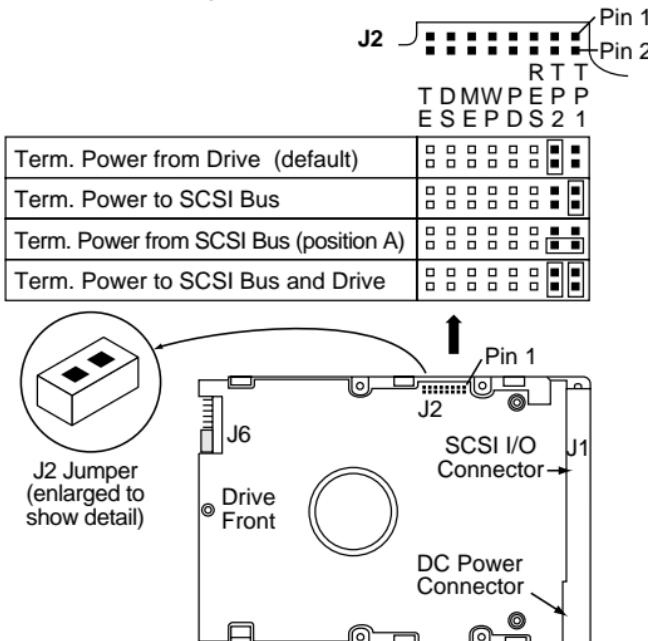

Figure 9. Setting terminator power jumpers
There are three possible terminator power (TP) configurations for "N" model drives (see Figure 9). You will not normally need to change this option and can leave the drive configured as it was shipped from the factory.